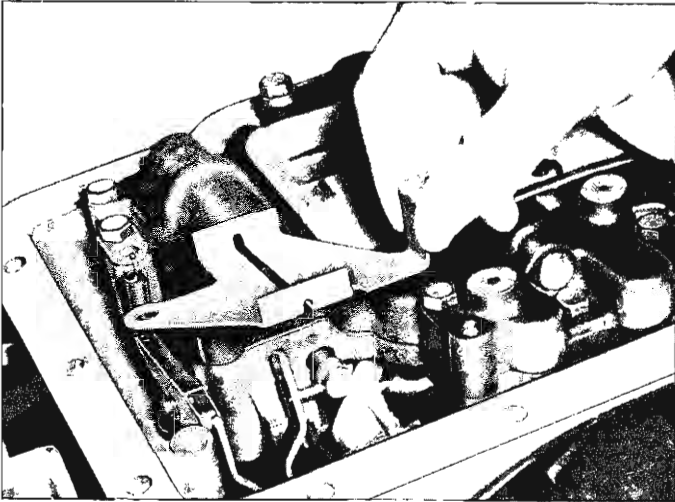

Fig. 40—Installing Detent Guide Plate
31. Install the guide plate (fig. 40) making sure that the inner lever properly picks up the manual valve. Install attaching bolts.